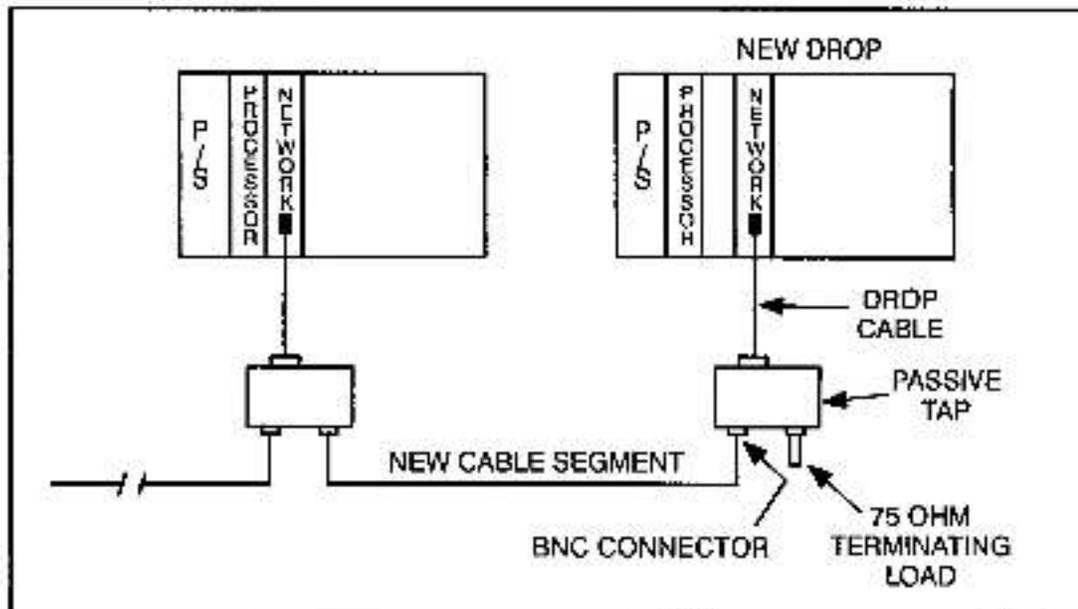

Figure 3.28 - Adding a New Drop at the End of the Network Cable System
- Step 5. Refer to figure 3.28 and use the following procedures if a new drop is to be added to one of the ends of the network. Skip to step 6 if a drop is to be added along the cable route.
- c.) Connect the other ends of the new cable segments with a tap attached to the new drop as shown figure 3.28.